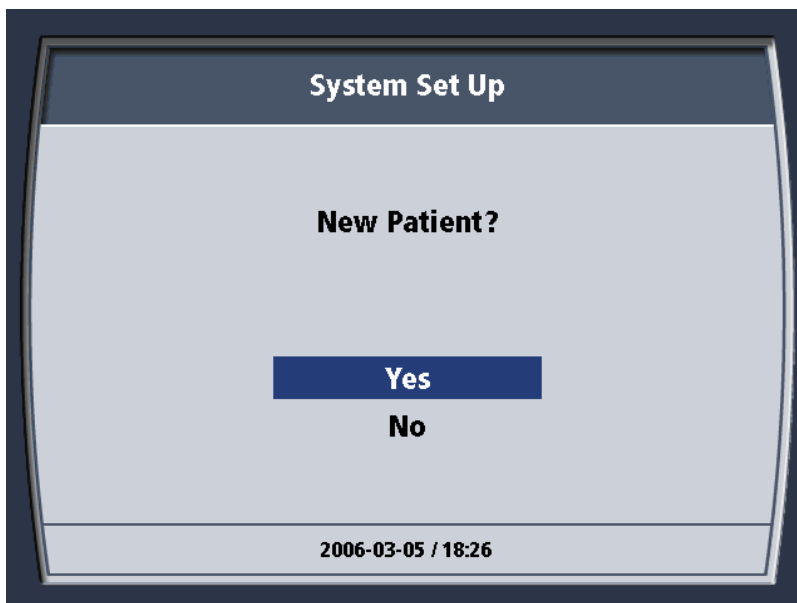

Figure 4.55. New Patient? Message
2. If you select "No" and press the knob, you will continue to be presented with screens that allow you to select operating parameters for the console prior to entering Standby starting at Figure 4.55— see below.